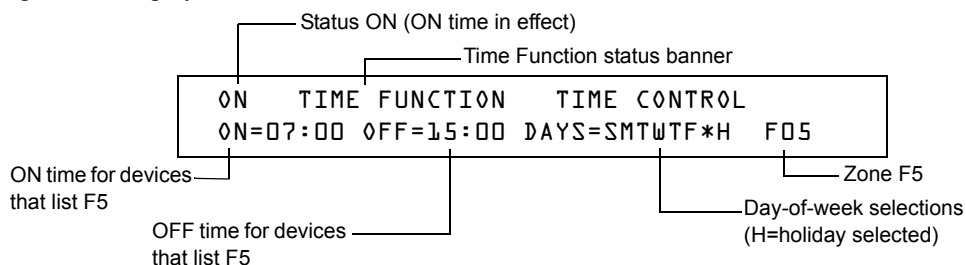

Figure 45 Sample Read Status for Time Function
Time Control is active for all days of the week listed in F5 or F6. Holidays listed in F7 are excluded unless you list Holidays (H) in the day-of-week selection of F5 and F6 (shown in Figure 45). Enter the time functions in a 24-hour format with the OFF time later than the ON time. After changing programming using Time Control, always reset the control panel.